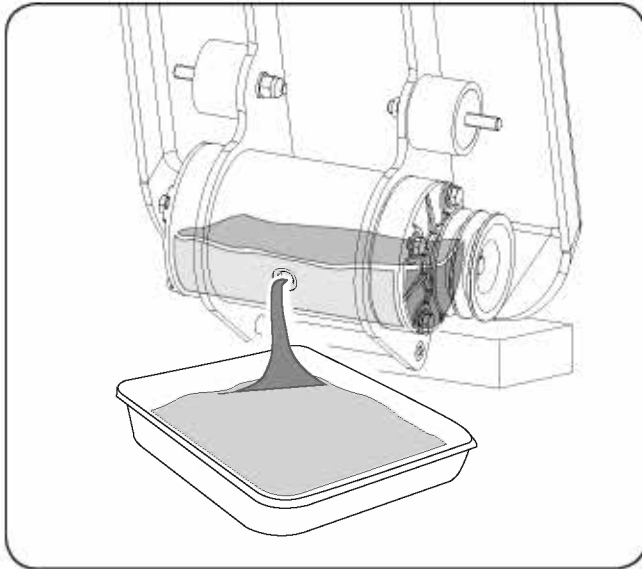

Figure 9b
- Remove pipe plug from top of exciter housing. Tilt housing upside down so oil drains from exciter. Examine oil for metal chips as a precaution to future problems. (See **Figure 9b**)